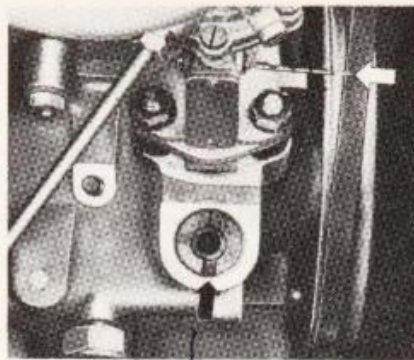

Fig. A-15. To position engine properly for timing or distributor installation, align timing mark on pulley with joint formed by crankcase halves.
- 1 - Crank engine until mark on crankshaft pulley lines up with vertical crankcase joining faces, Fig. A-15, and distributor rotor arm is in position for firing on No. 1 cylinder (see mark on rim of distributor base). If pulley has two marks on it, right-